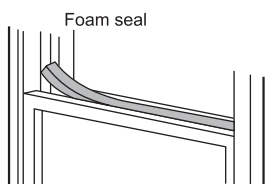

Fig.13
5. Cut the foam seal to an appropriate length and seal the open gap between the top window sash and outer window sash. See Fig.13.